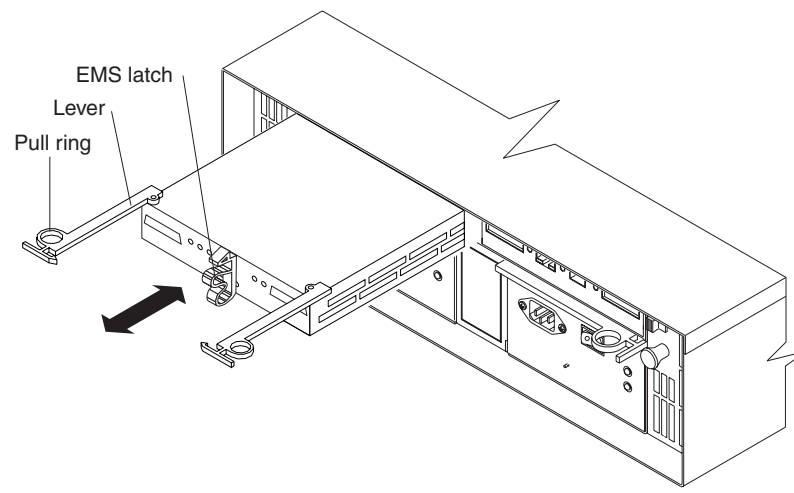

Figure 15. Replacing an ESM
1. Slide one ESM into the empty slot in the storage expansion enclosure. Be sure the levers are pulled straight out as you slide it in, as shown in Figure 15.